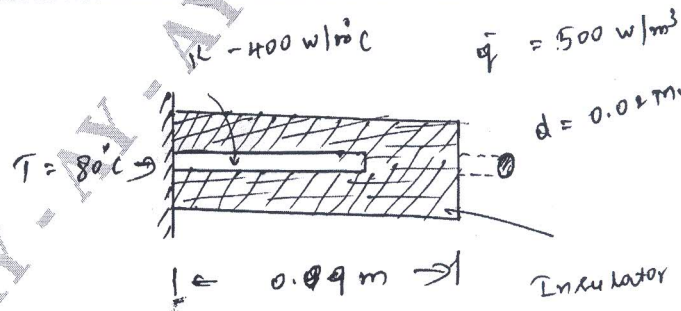

Fig. Q10 (b)
b. Determine the temperature distribution in a one dimensional fin shown in fig.Q10 (b). There is a generation uniform heat inside the wall of 500 W/m3.